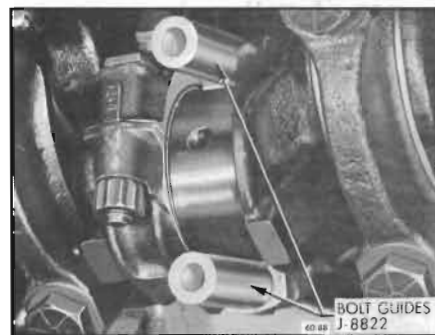

Figure 60-88—Connecting Rod Bolt Guides Installed
4. Remove cap and bearing shell from #1 connecting rod. Install connecting rod bolt guides on the bolts to hold the upper half of the bearing shell in place. See Figure 60-88.